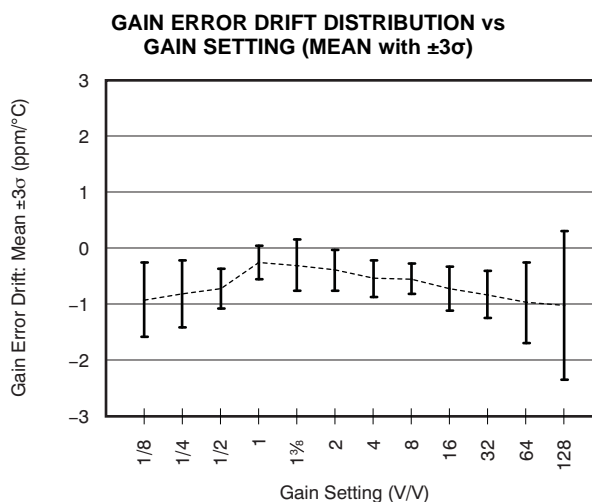

Figure 10.
(5) Gains smaller than $\frac{1}{2}$ are measured with smaller output swing.
(6) Specified by design; not production tested.
(7) See Figure 10 for typical gain error drift of various gain settings.
(8) See Application Information section and typical characteristic graphs.
(9) Only $G = 1$ is production tested.